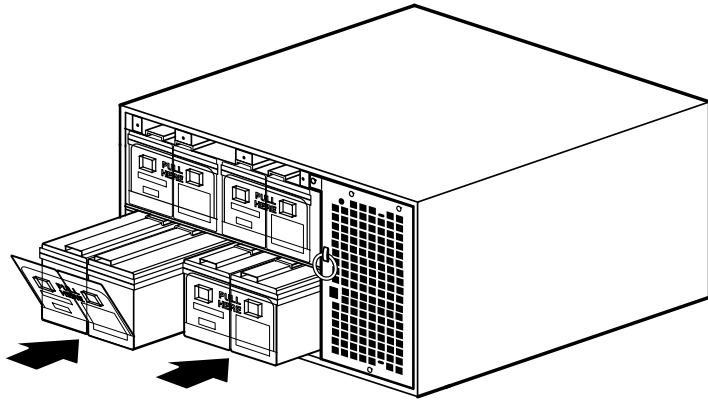

Figure 17. Installing the UPS Battery Trays
4. Slide the battery trays into the cabinet (see Figure 17). Verify that each tray is properly aligned before sliding the tray in.